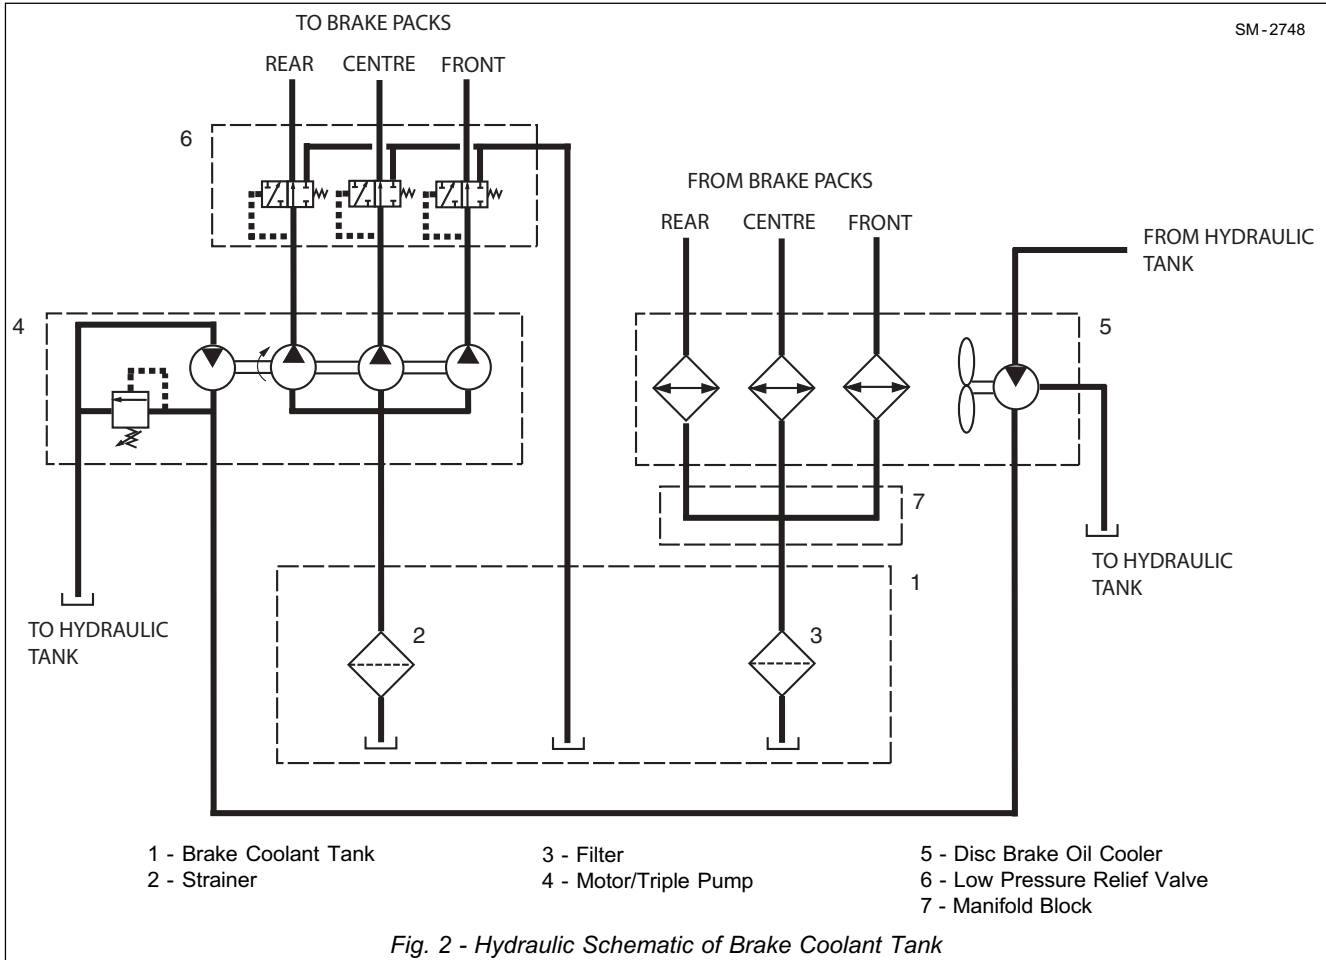

Fig. 2 - Hydraulic Schematic of Brake Coolant Tank
Numbers in parentheses refer to Fig. 1, unless otherwise specified. Refer to Fig. 2 for hydraulic schematic of brake coolant tank.
The brake cooling oil is drawn from brake coolant tank (1) by motor/triple pump (4, Fig. 2) and pumped through the low pressure relief valve (6, Fig. 2) to supply each brake pack. Refer to Section 250-0045, MOTOR/TRIPLE PUMP ASSEMBLY.
The low pressure relief valve (6, Fig. 2) ensures that only low pressure cooling oil is supplied to the brake packs. There are three pressure relief valves housed in valve (6, Fig. 2), one for each axle, which are set at 1.5 bar (22 psi).
Return oil from the brake packs flows through disc brake oil cooler (5, Fig. 2), manifold block (7, Fig. 2) and filter assembly (3, Fig. 2) before entering the tank storage area. The filter assembly has a bypass valve which allows oil to bypass element (14) when it is cold or when the filter element (14) is blocked.